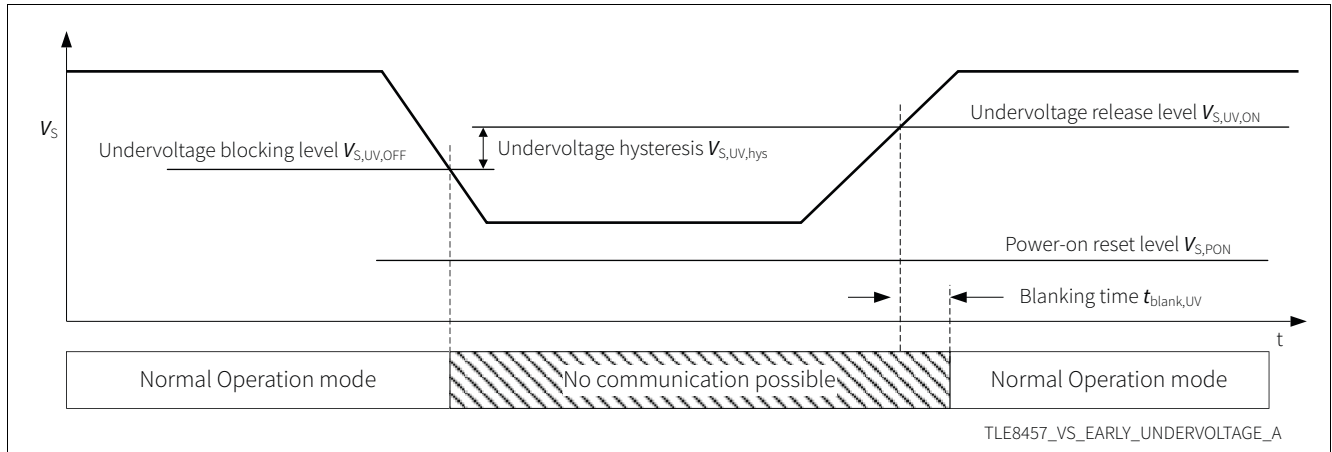

Figure 9 V_S early undervoltage detection
- In normal operation mode the TLE8457A / TLE8457B blocks the communication between the LIN bus and the microcontroller when detecting an early undervoltage event. The RxD output will be set “high”. However, no mode change will occur. After V_S rises above the undervoltage release level $V_{S,UV,REL}$, the bus communication interface will be released as soon as the signal on the TxD input goes “high” (see Figure 9).